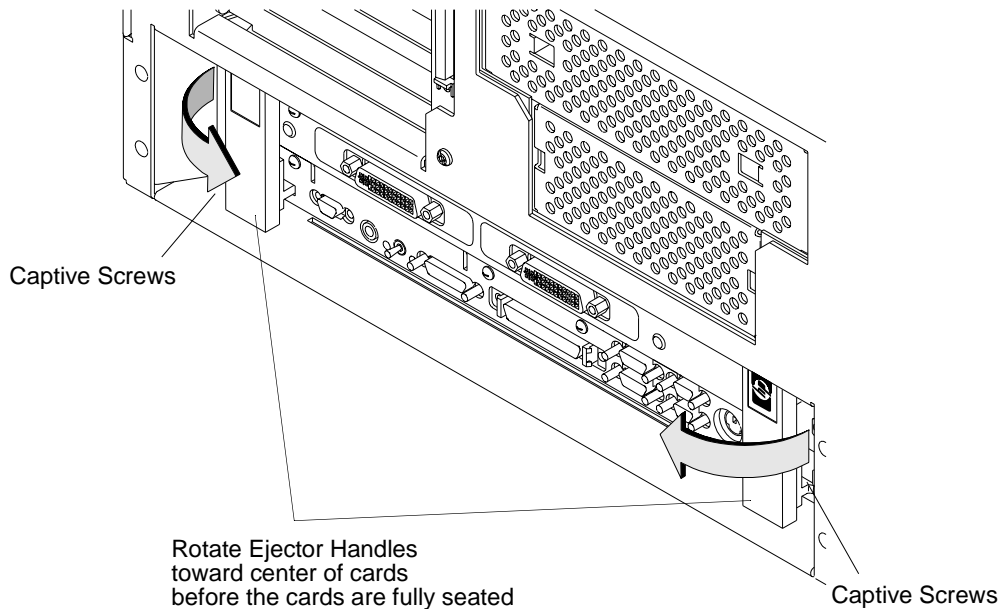

Figure 4-12 **Installing the Board Computer with PMC into Chassis**
- 15** Engage all captive screws before tightening each screw of the board computer and PMC adapter(s). See Figure 4-12.